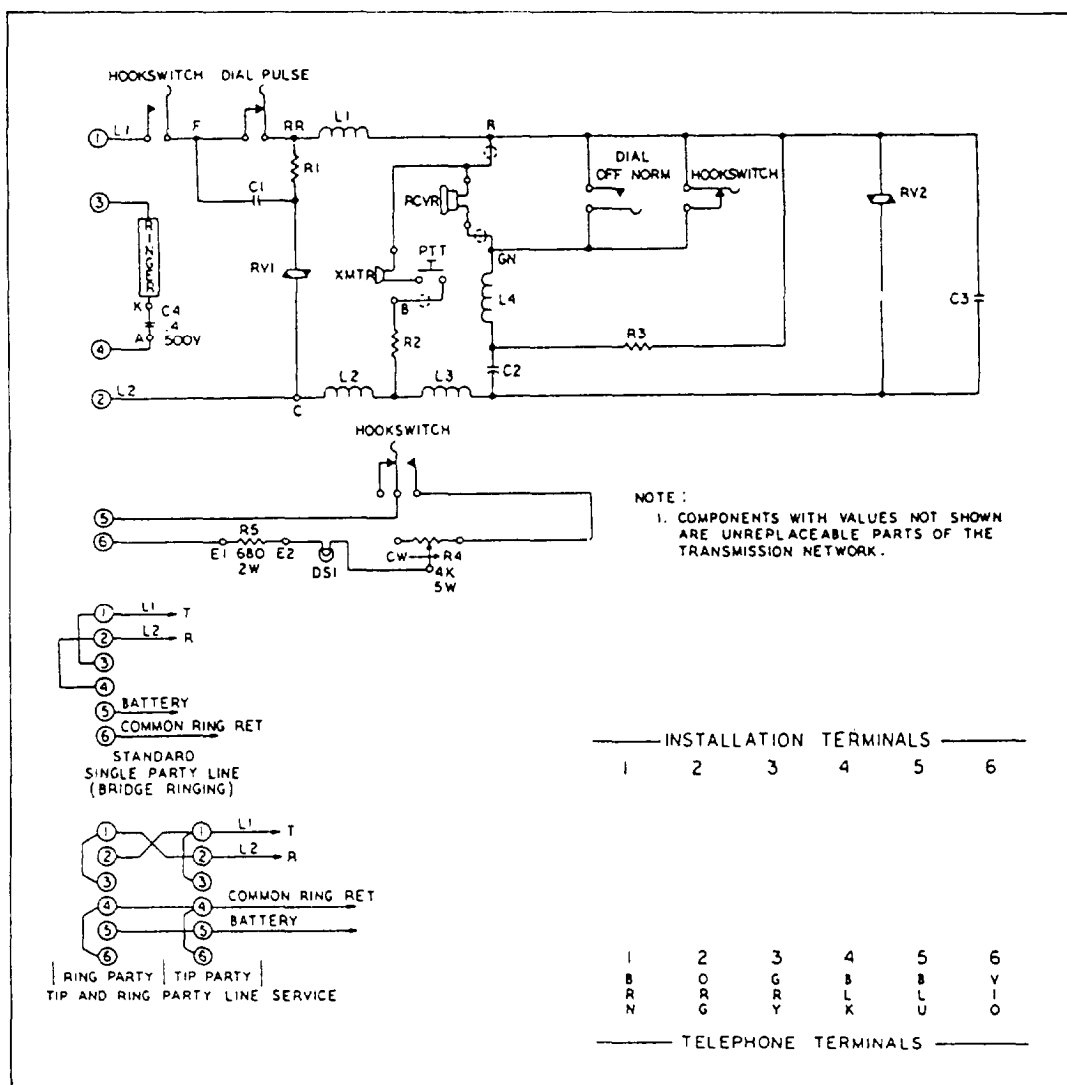

Figure 6-8.—Schematic diagram of the type G (R) set.
Figure 6-8 is a schematic diagram of the type G (R) set.